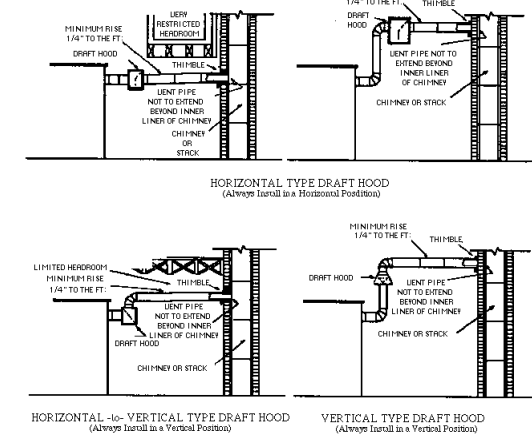

Figure 10: Draft Hoods
□ For the conventional appliances where a slight negative pressure in the combustion chamber is desirable, the chimney and flue pipe sizes given in Table 3 are recommended. Where chimney height exceeds 15 feet, a draft control should be installed per Figure 10 and set to produce a draft of approximately .04" W.C.